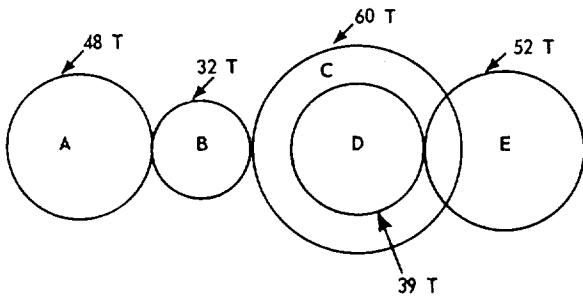

Figure 2B
For items 2-24 through 2-28, refer to the gear system in figure 2B and to the symbols which follow.